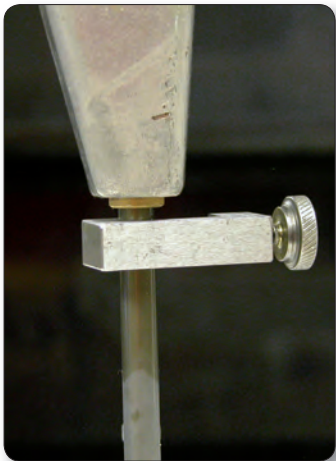

Figure 9.2
- Remove the 2.2 feeler gauge (Figure 9.2).